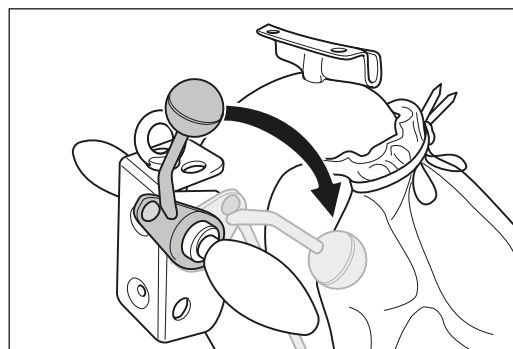

Fig. 42 Press the lowering lever at the handle downwards to lower the sanding drum onto the floor.
- 2 Press the lowering lever at the handle downwards (fig. 42) and start sanding on the first sanding path.